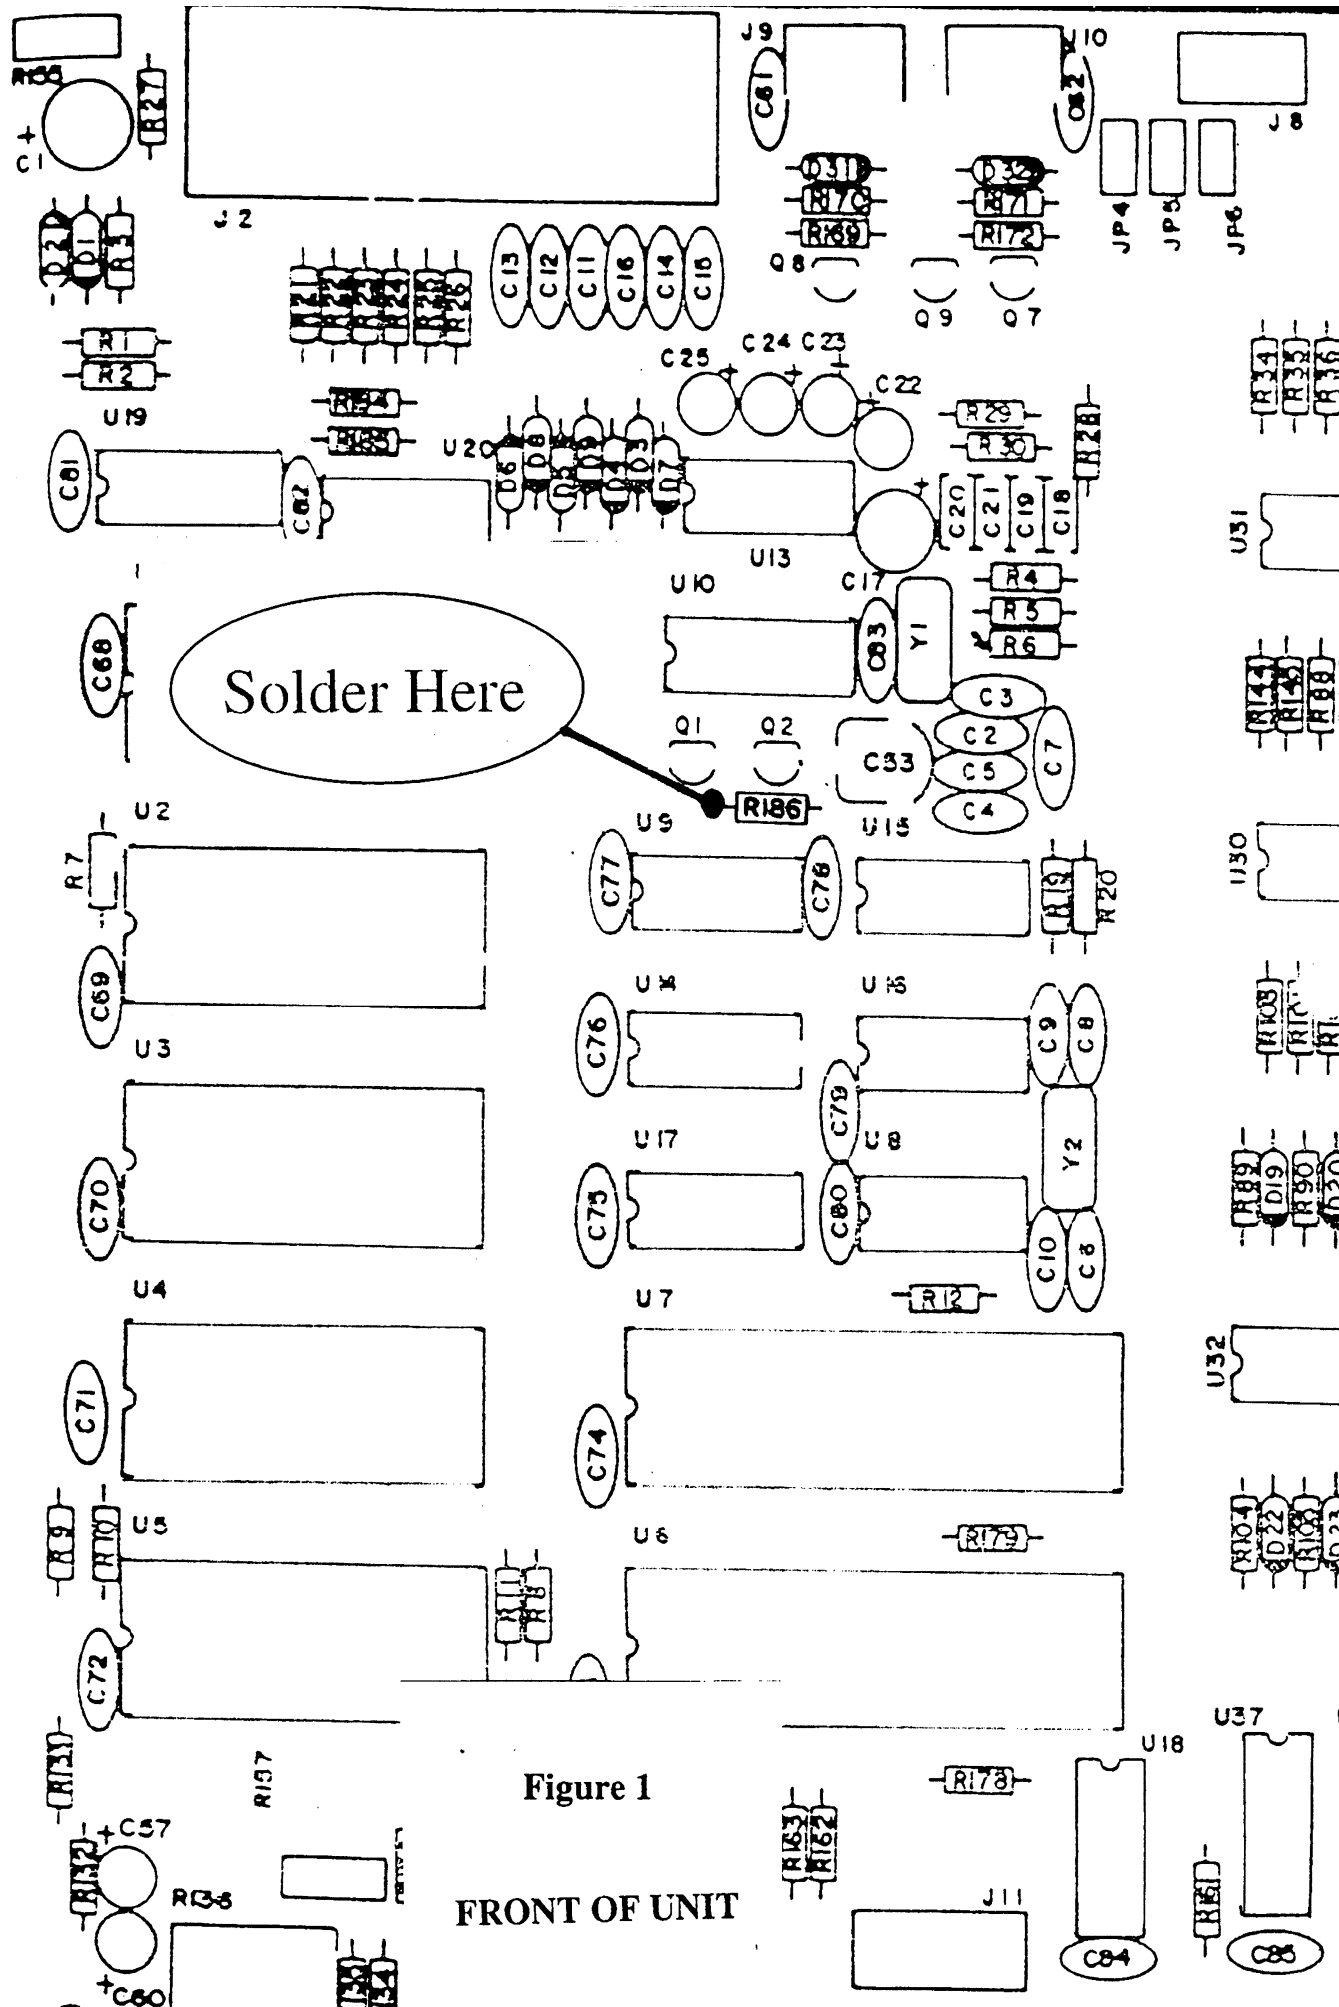
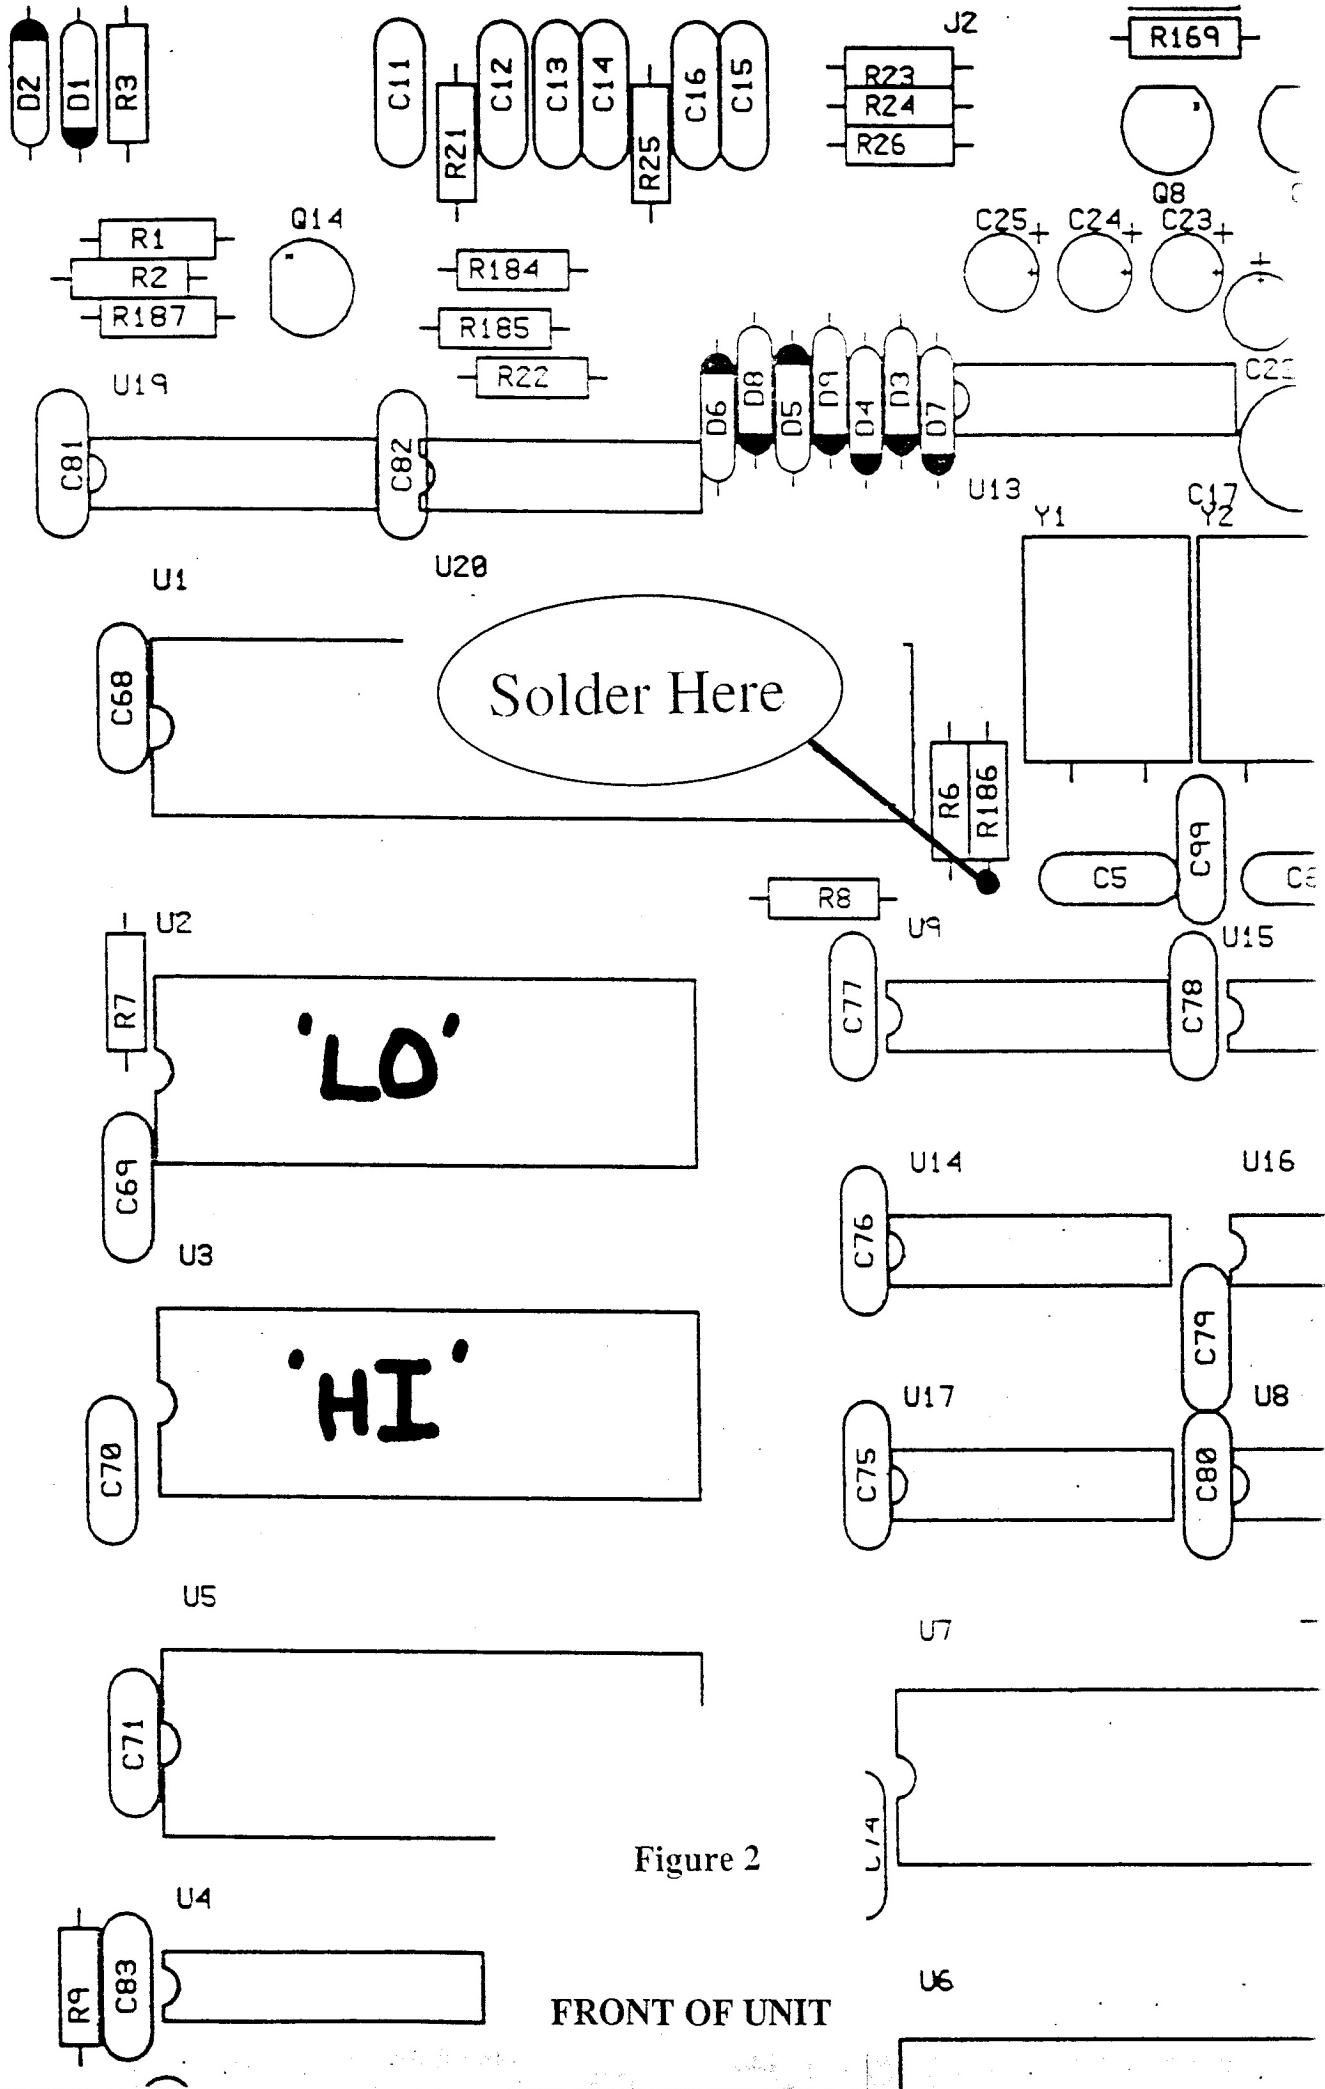

Figure 1
Figure 2
- 11) Starting with the left side wire on the DSP board. Attach this wire to R-186 (330 ohms Orange, Orange, Brown). Bend the wire in a "U" around lead of R-186, then press the ends of the "U" together using the needle nose pliers. If your PK-232 board is an "old" style board attach the wire to the left side of R-186 see fig 1. If your board is a "new" style board attaches the wire to the bottom (Toward the front) of R-186. Solder the connection. See fig. 2